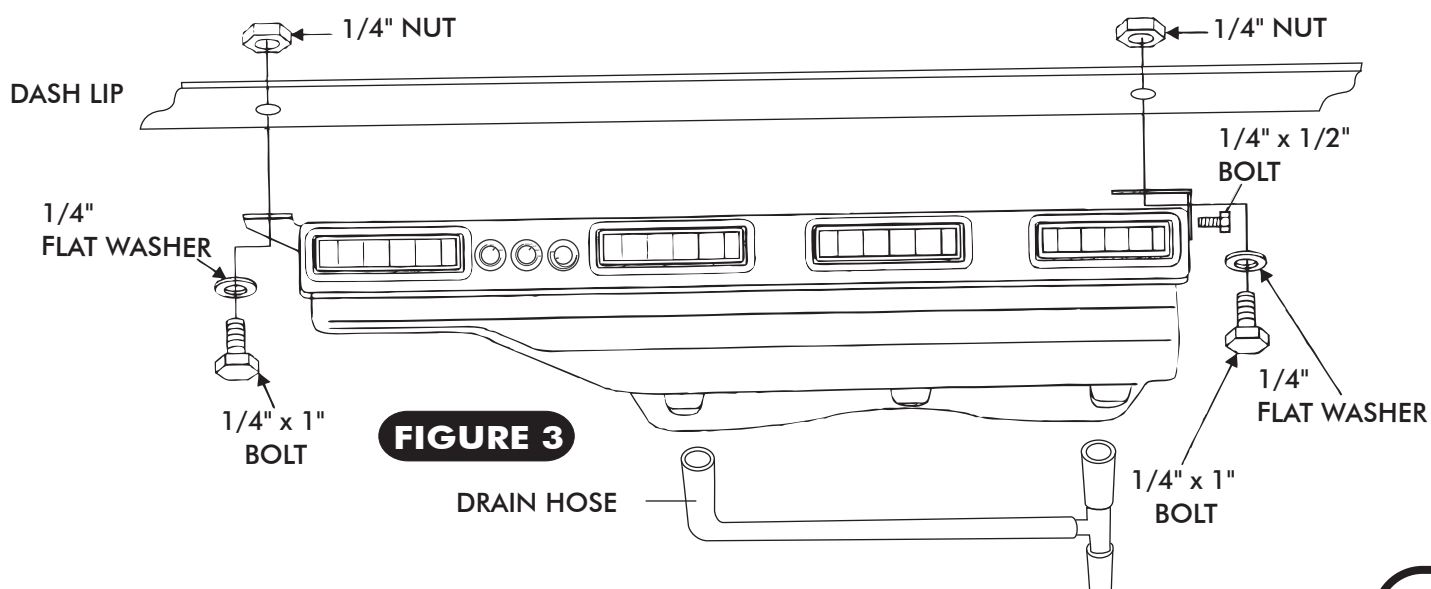

FIGURE 3
- ❑ ATTACH THE DRAIN HOSE (SEE FIGURE 3) AND DRILL A 9/16" DIAMETER HOLE IN FIREWALL 1" BELOW THE BOTTOM OF THE EVAPORATOR.